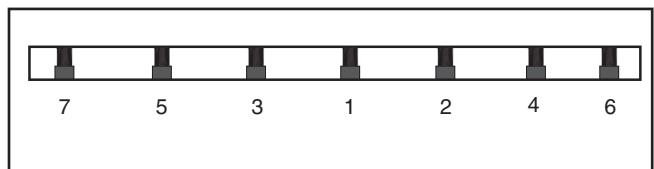

Figure 63. Gib tightening sequence.
8. Rotate the cutterhead to the first knife you started with. Slightly tighten all the gib bolts by following the tightening sequence shown in **Figure 63**. Repeat this step on the rest of the knives, then final tighten each gib bolt.